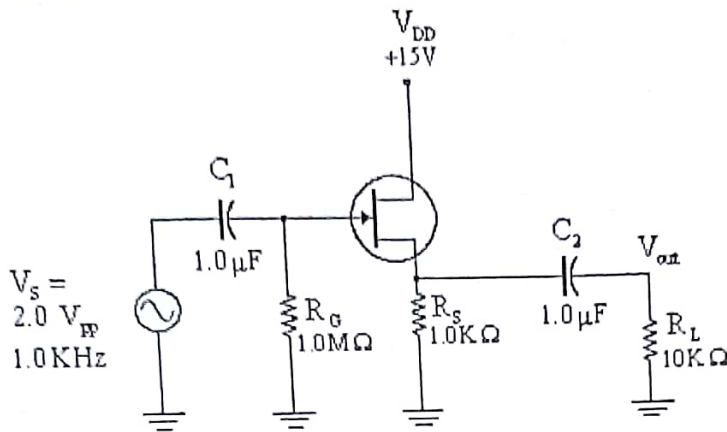

Fig.6: Common Drain Amplifier
5. Change the circuit to the self-biased common-drain configuration as shown in Figure 6. The drain is connected directly to +15 V. Observe the input and output AC voltages with the oscilloscope. Measure the voltage gain and note the phase. Enter the data in Table 5.